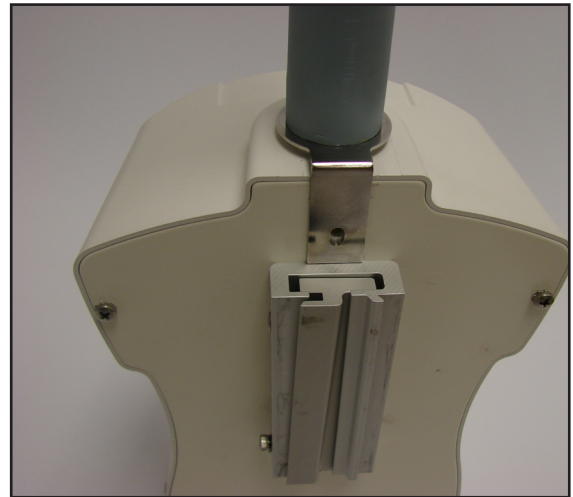

Figure 7-2
4. Insert the light pipe tip into the light pipe port until the clip is aligned to the top mounting screw hole (Refer to Figure 7-2).